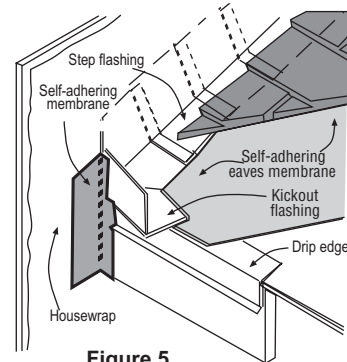

Figure 5
- Install kickout flashing at roof-wall junctions. (fig. 5.) Ensure gutters have end caps and do not terminate against siding and trim.
Because of the volume of water that can pour down a sloped roof, one of the most critical flashing details occurs where a roof intersects a sidewall. The roof must be flashed with step flashing. Where the roof terminates, install a kickout to deflect water away from the siding (figure 5).
Figure 5, Kickout Flashing* - To prevent water from dumping behind the siding and the end of the roof intersection, bend a small "kickout" from metal flashing to divert water running down the roof away from the siding.
* The illustration (figure 5) was reprinted with permission of THE JOURNAL OF LIGHT CONSTRUCTION. For subscription information, call (800) 375-5981 or visit www.jlconline.com.